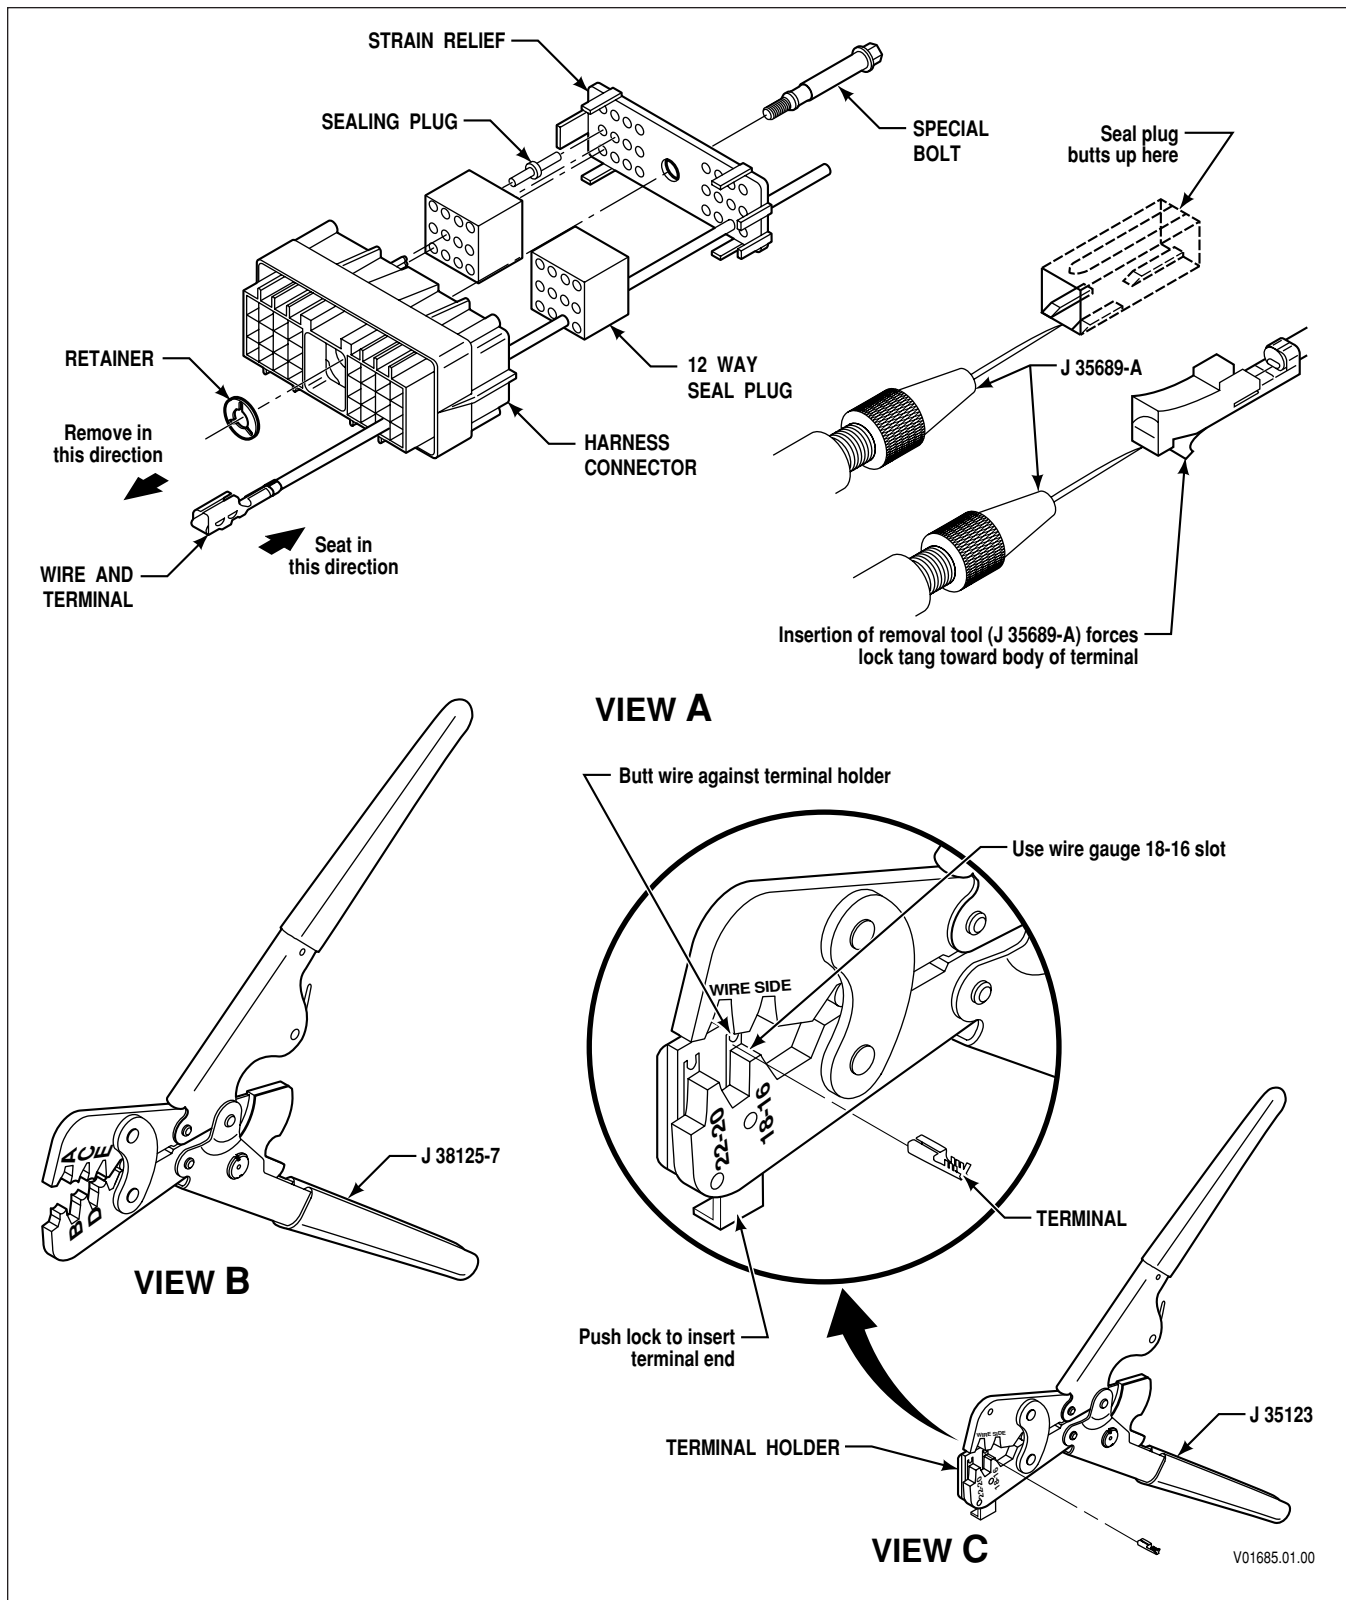

Figure E-2. Delphi-Packard Metri-Pack 150 Series Connectors—Pull-to-Seat (Speed Sensor; Accumulator Solenoid; Retarder Solenoid, TID 2; 30-Way and 18-Way VIM)
1. Insert needle end of terminal remover J 35689-A into the small notch between the connector and the terminal to be removed (Figure E-2, View A). Push the lock tang toward the terminal.
3. Place core crimp portion of terminal on bed of anvil “E” and squeeze crimper enough to keep terminal from dropping (Figure E-2, View B).